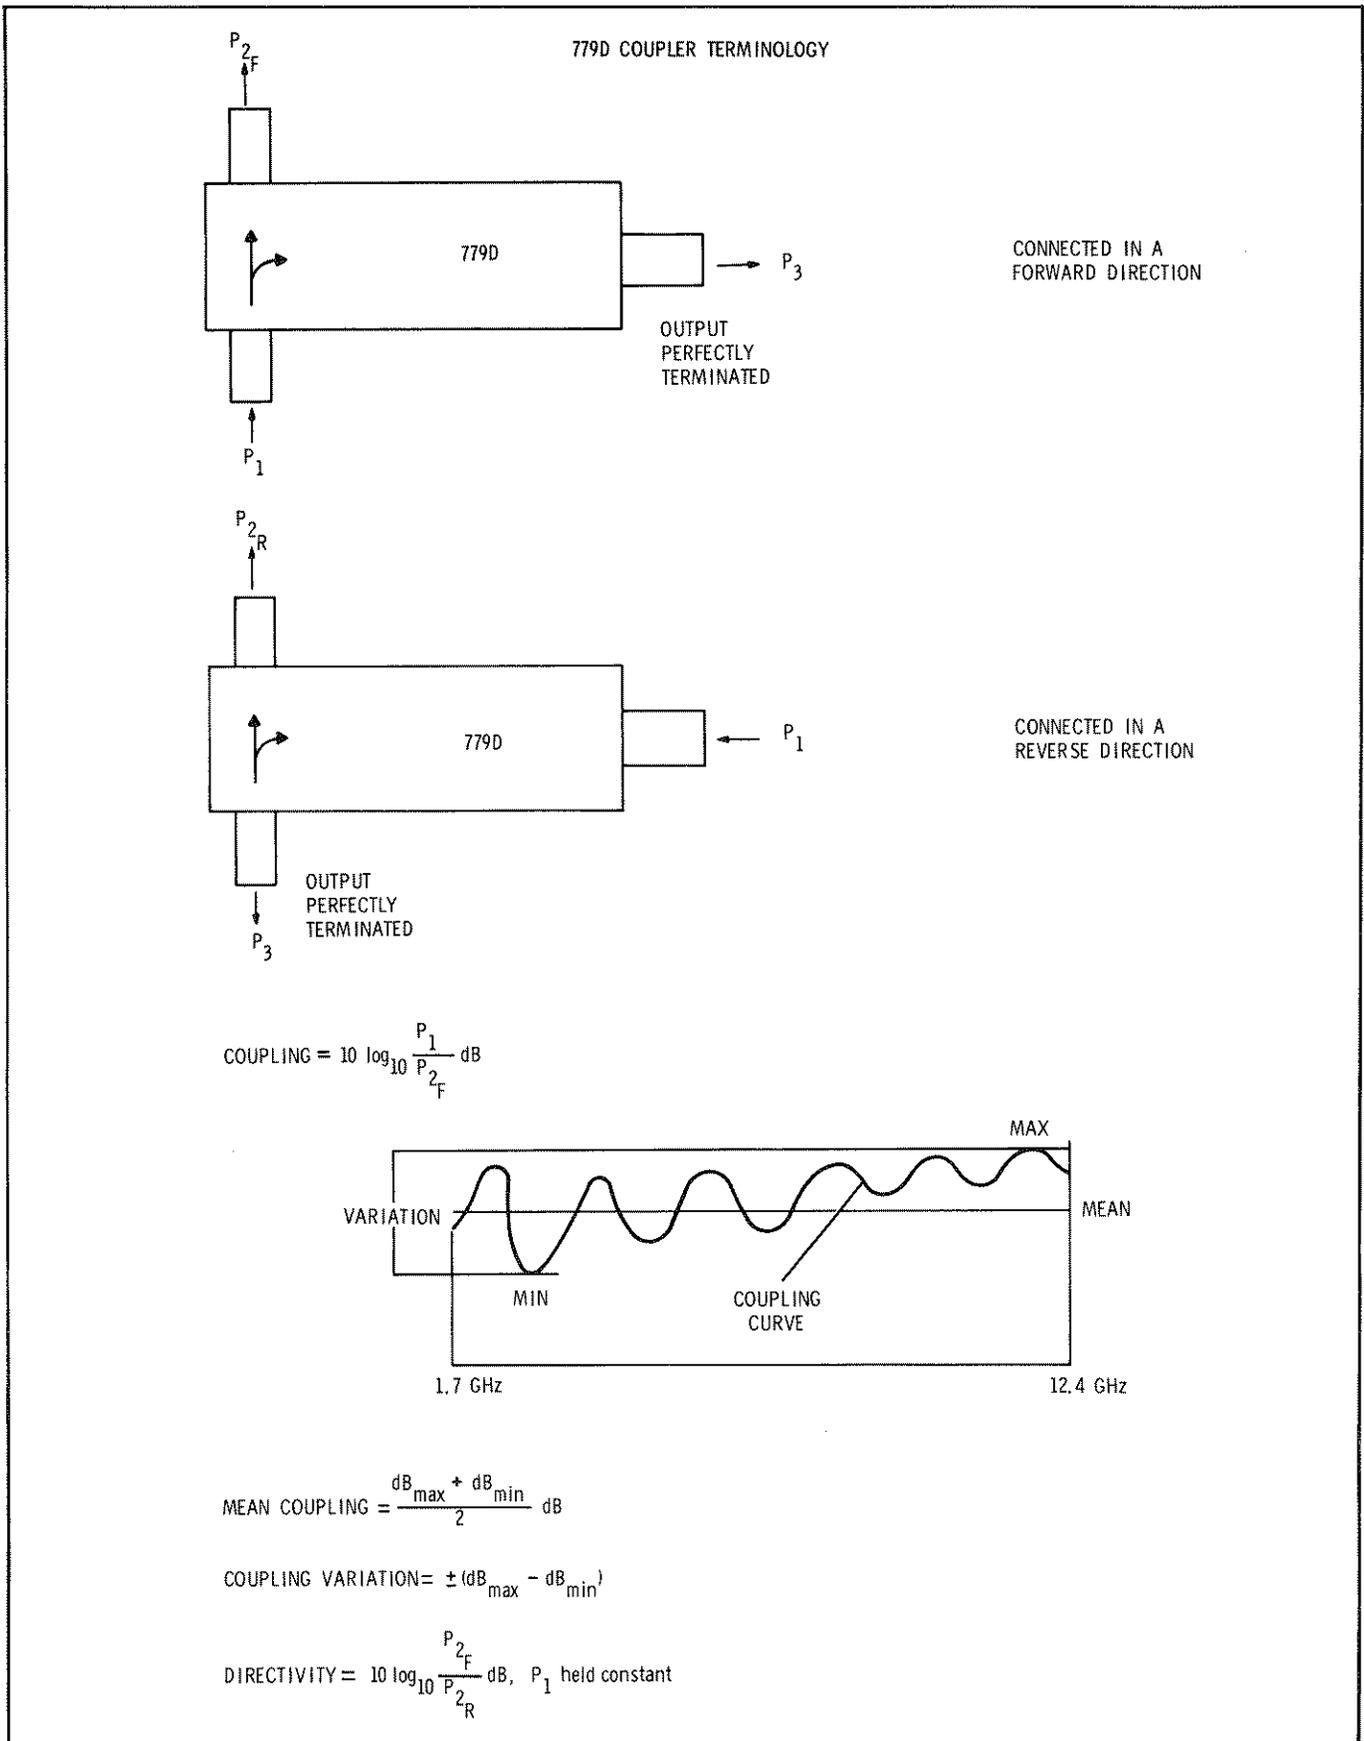

Figure 3. 779D Coupler Terminology
2. The Hewlett-Packard Model 779D Directional Couplers are three-port passive devices for use in 7-mm, 50-ohm systems. A coupler is essentially a device for sampling power flowing in one direction in a transmission line. Since no coupler is perfect, some power flowing in the opposite direction is also sampled. The rejection of power flowing in the unwanted direction is called directivity and is the most important specification of a directional coupler. This coupler has 26 or 30 dB directivity, depending upon the frequency. Another specification is the forward coupling (usually called just coupling) which is the fractional amount of power transfer in the wanted direction. This coupler has a nominal 20 dB of coupling. These terms are defined in Figure 3, Coupler Terminology. Figure 3 also has a drawing of a typical coupling curve. This is a typical curve and not a specification. Table 1 contains the specifications.